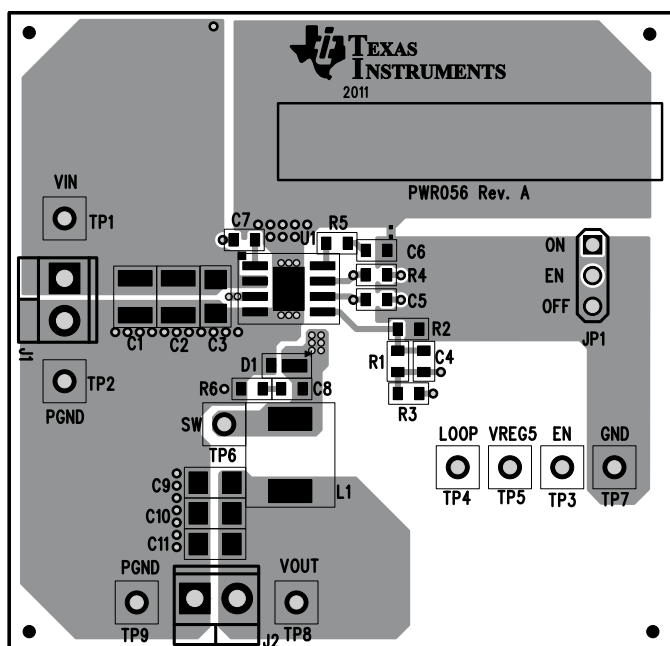
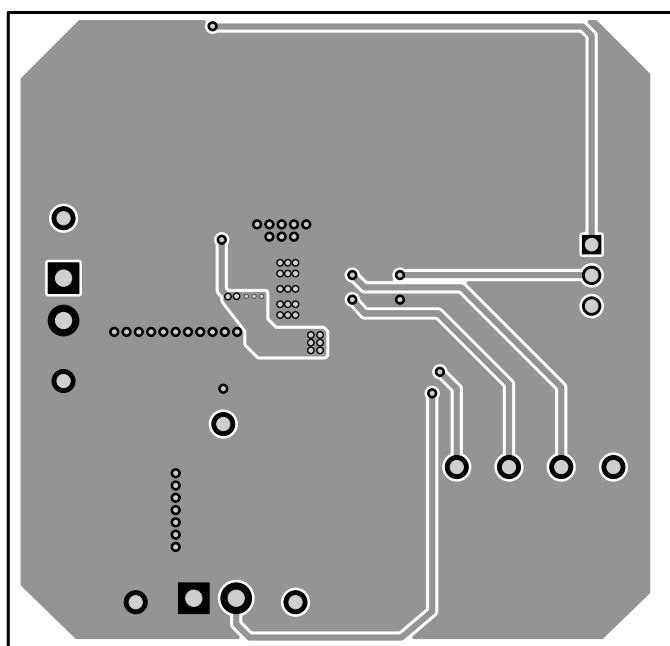

Figure 5-1. Top Assembly
Figure 5-5. Bottom Layer
The board layout for the TPS54339EVM-056 is shown in Figure 5-1 through Figure 5-5. The top layer contains the main power traces for VIN, VO, and ground. Also on the top layer are connections for the pins of the TPS54339 and a large area filled with ground. Many of the signal traces also are located on the top side. The input decoupling capacitors are located as close to the IC as possible. The input and output connectors, test points, and all of the components are located on the top side. An analog ground (GND) area is provided on the top side. Analog ground (GND) and power ground (PGND) are connected at a single point on the top layer near C6. The two internal layers are completely dedicated to power ground planes. The bottom layer is primarily power ground. A copper pour area on the bottom layer is used to connect the switching node (SW) to the output inductor and the boost capacitor. Traces also connect enable control jumper, EN, VREG5, and LOOP test points, and the feedback trace from VOUT to the voltage setpoint divider network.